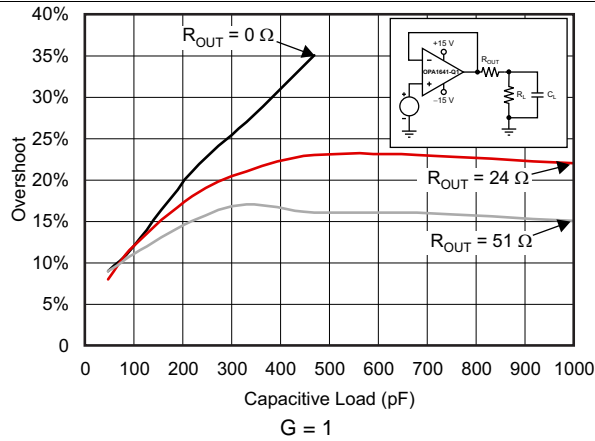
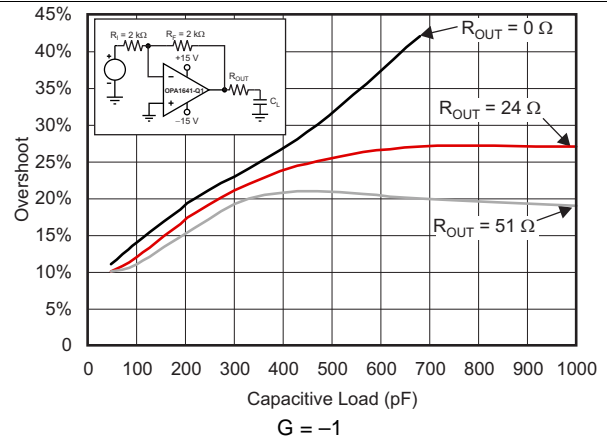

图 19. Small-Signal Overshoot vs Capacitive Load (100-mV Output Step)
图 20. Small-Signal Overshoot vs Capacitive Load (100-mV Output Step)
(1) Full power bandwidth =  $SR / (2\pi \times V_P)$ , where SR = slew rate.
(2) See Figure 19 and Figure 20.
图 19 and 图 20 illustrate graphs of *Small-Signal Overshoot vs Capacitive Load* for several values of  $R_{OUT}$ . For details of analysis techniques and application circuits, see Feedback Plots Define Op Amp AC Performance available for download at [www.ti.com](http://www.ti.com)